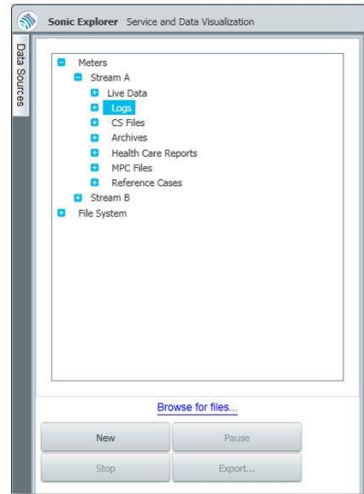

Figure 13-1 View logs
- ▶ Go to: **Meters** → **<Meter Name>** → **Logs**. At the bottom left you have four action buttons. (**New**, **Pause**, **Stop**, and **Export**). Please see Figure 13-1.